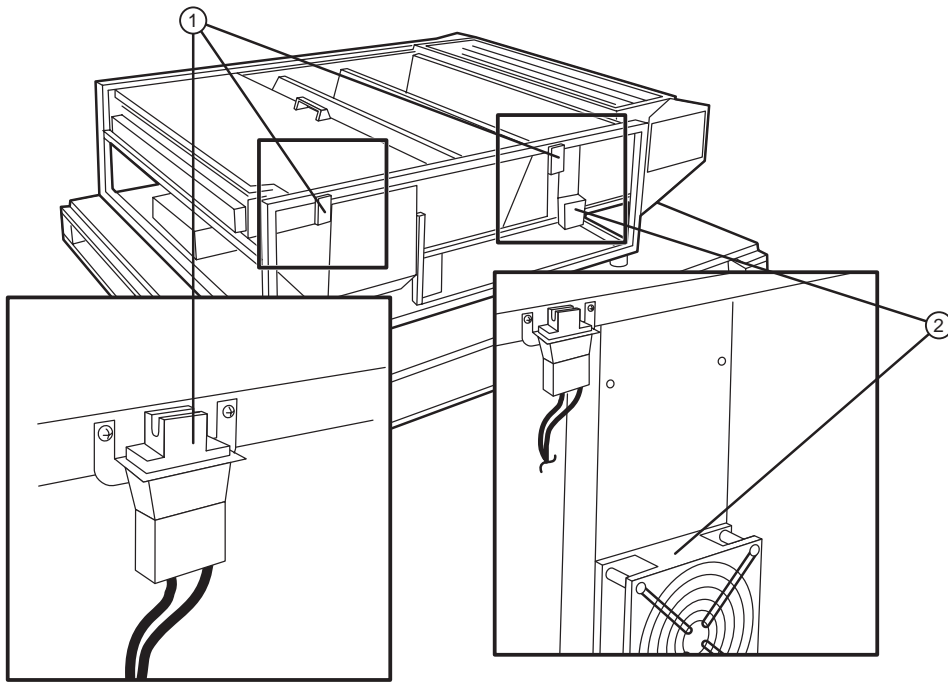

Figure 1-7 Open-door sensors and fan.
①—Lid (tape before moving engine). ②—Roller (remove before moving).
7. Using a phillips head screwdriver, remove the two (2) open-door sensors located on the side of the engine and tape them to the inside of the frame. Refer to Figure 1-7.
8. Using a phillips head screwdriver, remove the chimney (with fan attached) and tape them to the inside of the frame. Refer to Figure 1-7.
5. Reattach the sensors to the side of the frame (see Figure 1-7).
6. Reattach the chimney with fan to the side of the frame (see Figure 1-7).